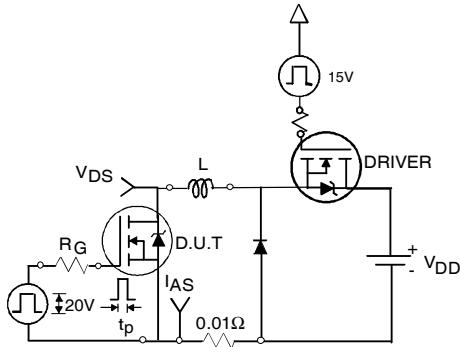

Fig 12a. Unclamped Inductive Test Circuit
- ④ Pulse width ≤ 400μs; duty cycle ≤ 2%.
- ⑤ C_{oss eff.} is a fixed capacitance that gives the same charging time as C_{oss} while V_{DS} is rising from 0 to 80% V_{DSS}.
- ⑥ Calculated continuous current based on maximum allowable junction temperature. Package limitation current is 90A.
- ⑦ Limited by T_{Jmax}, see Fig.12a, 12b, 15, 16 for typical repetitive avalanche performance.
3. Equation below based on circuit and waveforms shown in Figures 12a, 12b.